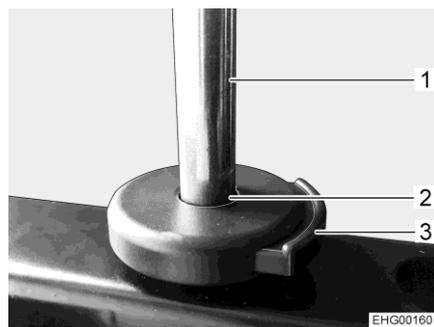

Fig. 19 Release button (headrest)
- Press the release button (Fig. 19,3).
- Plug the holding rod (Fig. 19,1) into the guide (Fig. 19,2).